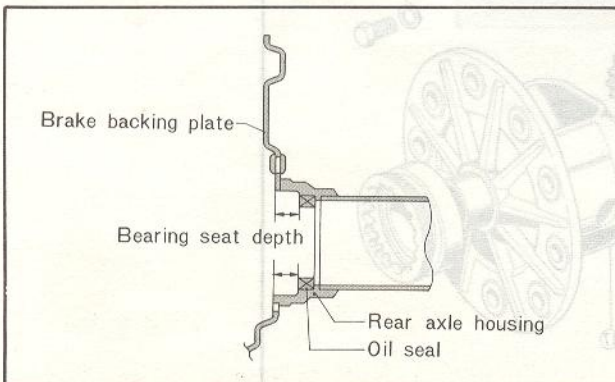

Fig. 9-6 Measuring depth of bearing seat
2. Check the rear axle shaft end play as follows: Install the backing plate temporarily and measure the depth of the bearing seat in the axle housing, using a depth gauge as shown in Fig. 9-6.